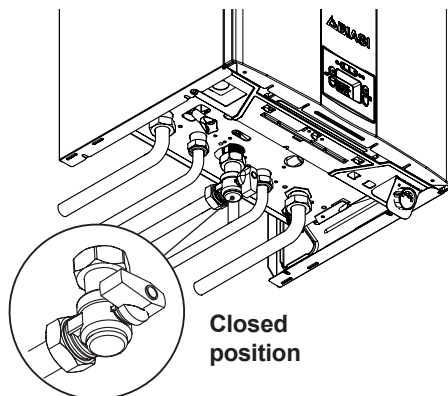

Figure 2.13
- Close the boiler cocks Figure 2.13;